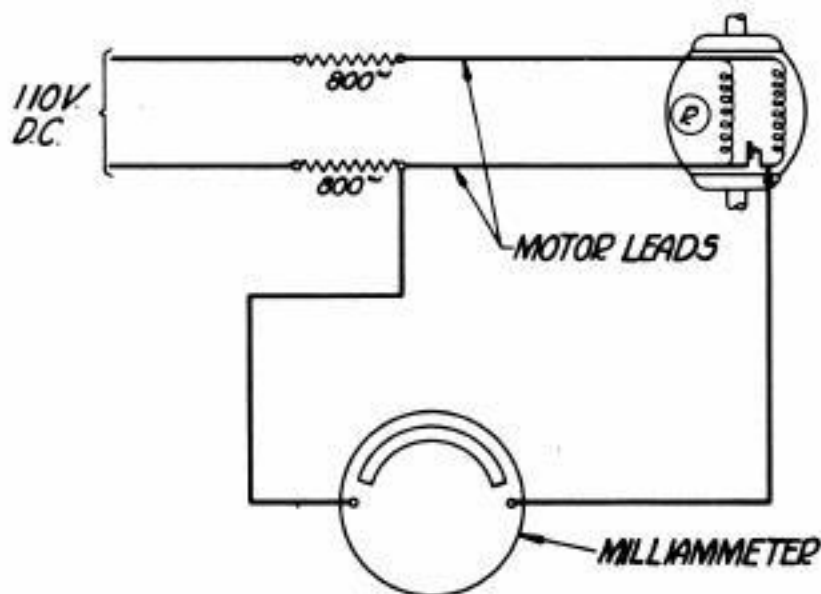

FIGURE 27
- (h) Starting Switch Contact Bracket Adjustment: A test set consisting of resistors and a milliammeter wired as shown on Figure 27 is used in connection with this adjustment. With a 110 volt D.C. battery and motor connected as shown, it may be seen that when the starting switch contacts are closed, no current will flow through the meter. With the contacts open, however, battery will flow through the meter limited by the resistors and motor windings.
- (i) With the test set connected to the motor as shown in Figure 27, check the starting switch contact bracket adjustment as follows: Set the No. 82862 collar on the rotor shaft at the switch end of the motor, so that there is 1/32" clearance between the collar and the motor casting. (The No. 82862 collar is not a part of the motor, but is a tool for use in checking this adjustment.) Press against the end of the rotor shaft until the collar is against the end casting, and slowly turn the rotor one complete revolution, observing the meter on the test set. The meter needle should remain on zero indicating that the contacts remained closed. If the contacts opened, shims should be added between the starting switch bracket and the motor end shield.